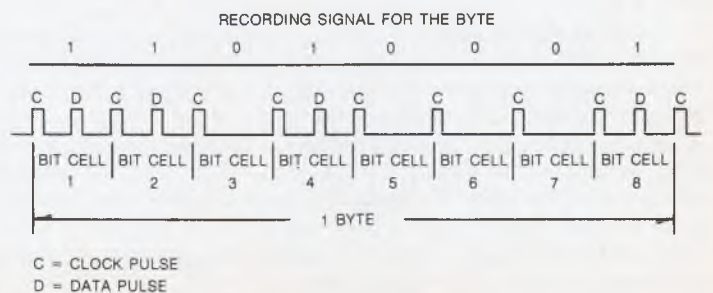

Figure 4. FM recording.
The actual recording technique used is known as double frequency (FM) NRZI modulation and is characterized in figure 4. A *bit cell* is defined as the space between two clock bits. The absence or presence of a pulse within each cell determines whether it represents a zero or a one. With this technique a "zero" is written by one flux reversal and a "one" is written by two reversals within each bit cell.